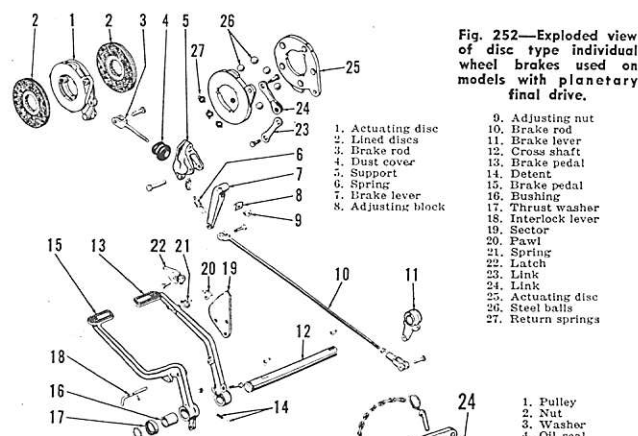

Fig. 252—Exploded view of disc type individual wheel brakes used on models with planetary final drive.
224. To adjust the disc-type brakes on tractors so equipped, turn each adjusting nut (9—Fig. 252) either way until brake pedal free play is 2½-3 inches when measured at pedal pad. Adjust both brakes equally, then equalize pedal height by means of rods (10).